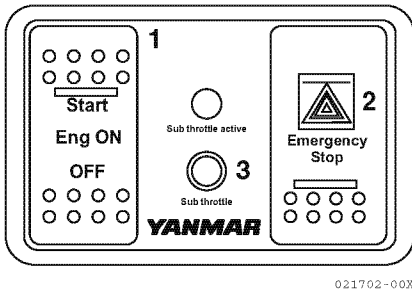

Figure 8
- Emergency stop (2, **Figure 8**):
Under normal circumstances, use the Eng ON switch (1, **Figure 8**) to stop the engine. The engine shuts down suddenly when the upper half of the emergency stop switch is pushed. Push the bottom half of the switch after the engine has shut down to return the switch to the center.
- Sub throttle control (3, **Figure 8**):